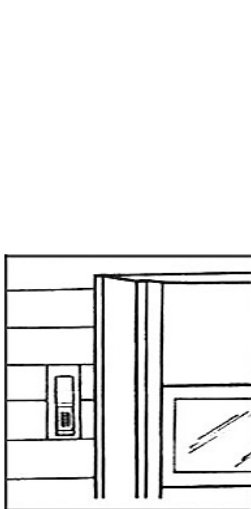

Fig. 1
- Step 1-1** Mount Wireless Keypad on a flat vertical surface with enough room above to slide cover up. Pick location out of path of moving garage door and supporting hardware. **Fig. 1**